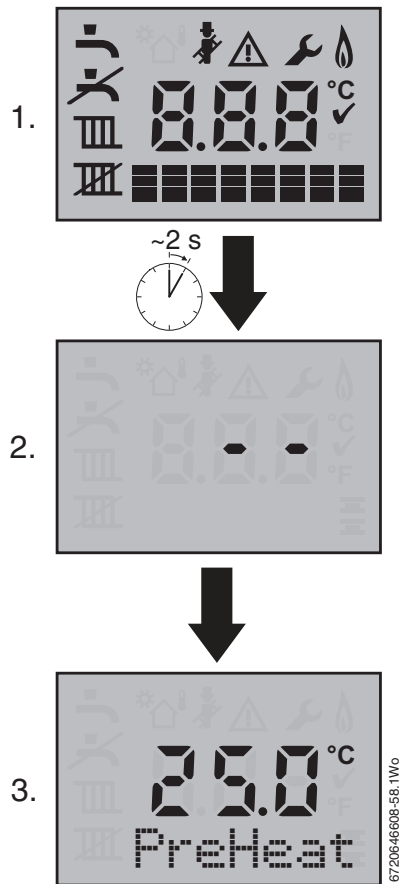

Fig. 58 Boiler start up screen
- ▶ Turn on the mains power supply, initially the “Boiler start up screens” will be displayed (refer to figure 58).